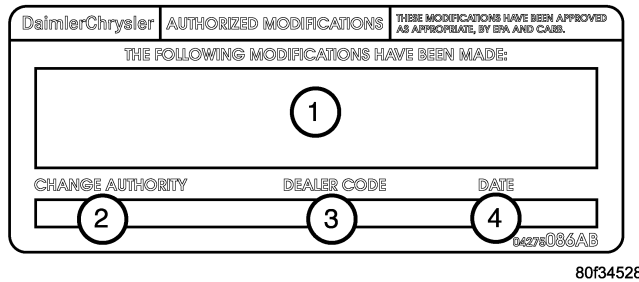

Fig. 1 AUTHORIZED MODIFICATION LABEL
15. Type the necessary information on the "Authorized Modification Label" p/n 04275086AB and attach near the VECI label (Fig. 1).
- 15. Type the necessary information on the "Authorized Modification Label" p/n 04275086AB and attach near the VECI label (Fig. 1).